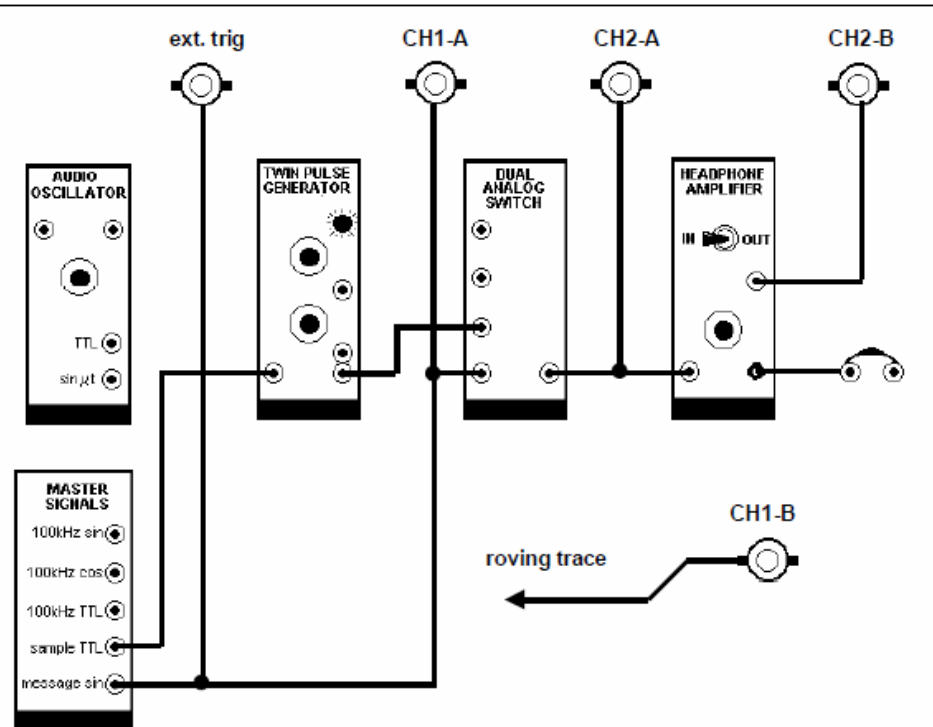

Figure 1
- 1) Build the model in Figure 1.